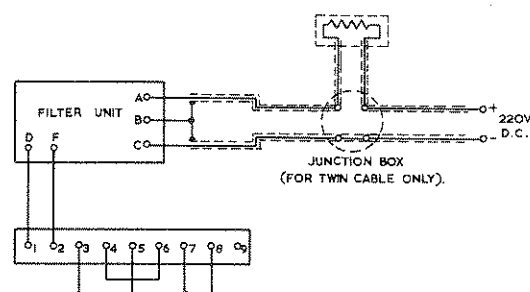

FIG. 3b 220V D.C.
- WHEN RESISTOR UNIT IS MOUNTED REMOTELY, CONNECTIONS & LINKS ARE AS SHOWN IN FIG. 3b. A JUNCTION BOX WILL BE NECESSARY IF TWIN CABLE IS EMPLOYED.